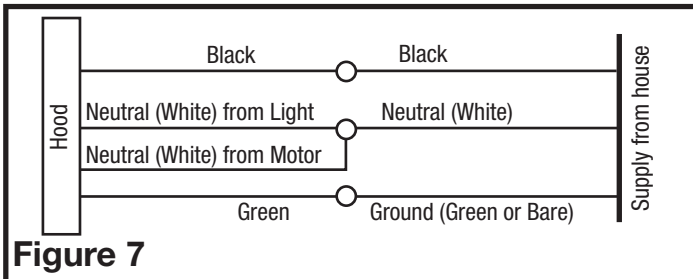

Figure 7
1. Connect the two loose White wires from the range hood to the White wire from the supply, and the loose Black wire from the range hood to the Black wire of the supply. Connect the ground wire (green or bare) from the supply to the green ground screw of the hood. Use approved methods for all connections (Figure 7).